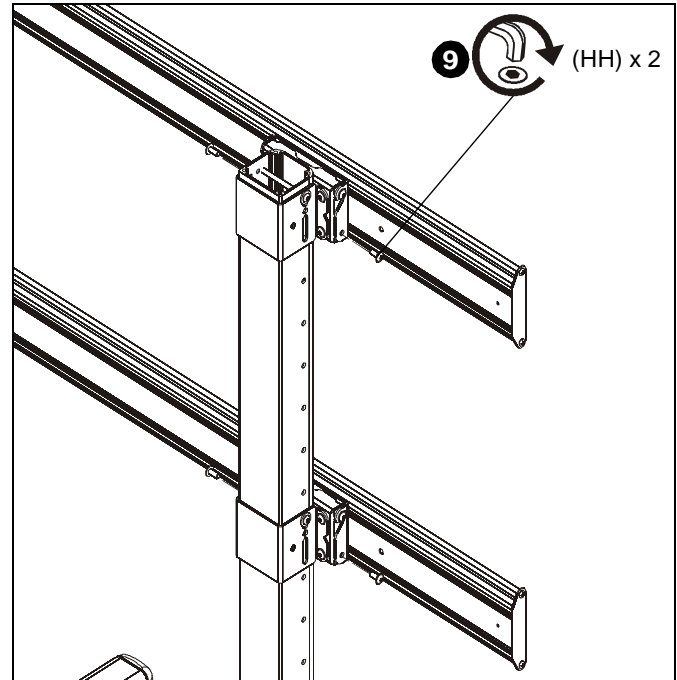

Figure 13
- Install two 5/16-18 x 3/4" button head flange screws (HH) into the lower holes on each quick connect base (Q) to secure rails to quick connect bases. (See Figure 13)
- Tighten all 5/16-18 x 3/4" button head flange screws (HH).